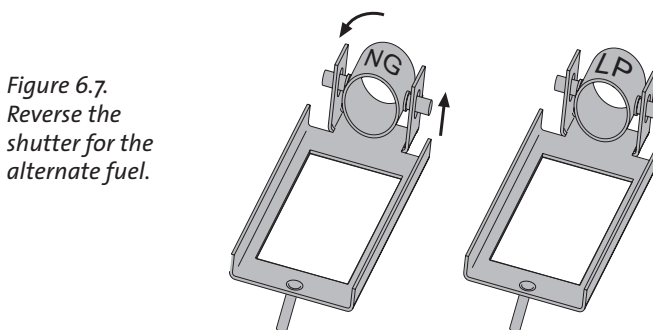

Figure 6.7.
7. **Change the Air Shutter orientation.** Flip the shutter over to indicate the appropriate fuel. See fig. 6.7.